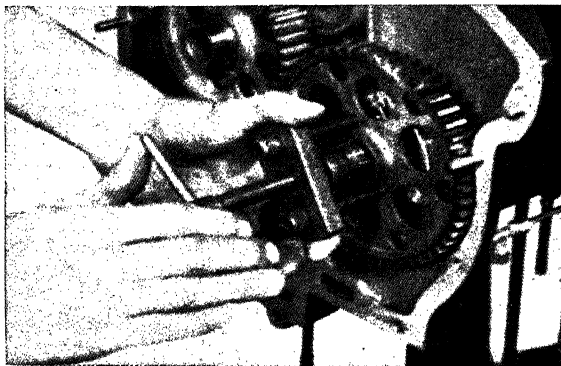

FIG. 14.—Pulling the camshaft gear.
**Camshaft and Gear.**—First remove the camshaft nut and the camshaft gear, using a gear puller. The gear is provided with two holes in the web for that purpose. The holes are 2 in. apart and are tapped  $\frac{5}{16}$ -24 (see Fig. 14).